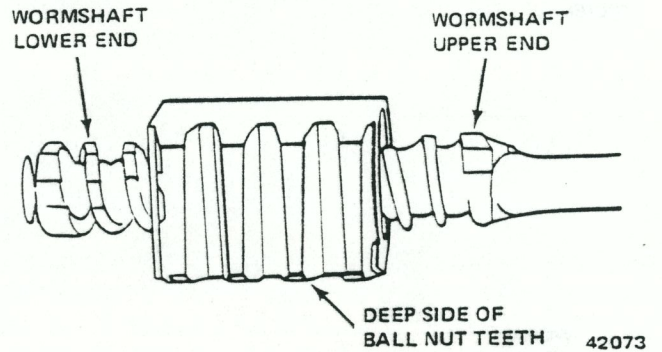

Fig. 2K-6 Positioning Wormshaft in Ball Nut
- (2) Install wormshaft in ball nut from left side. Thread shaft into nut until equal number of shaft threads are visible at each end of nut (fig. 2K-6).
CAUTION: The ball nut teeth are machined to a greater width and depth on one side. When assembling the wormshaft and ball nut, position the ball nut so the wider-deeper side of the teeth will face the housing side cover opening after installation (fig. 2K-6).